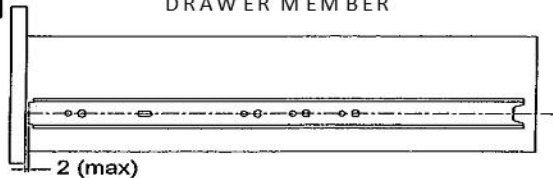

Fig. 3
3. Install the external slides to the cabinet member and make sure that both slides are leveled and parallel to each other. (Fig.3)